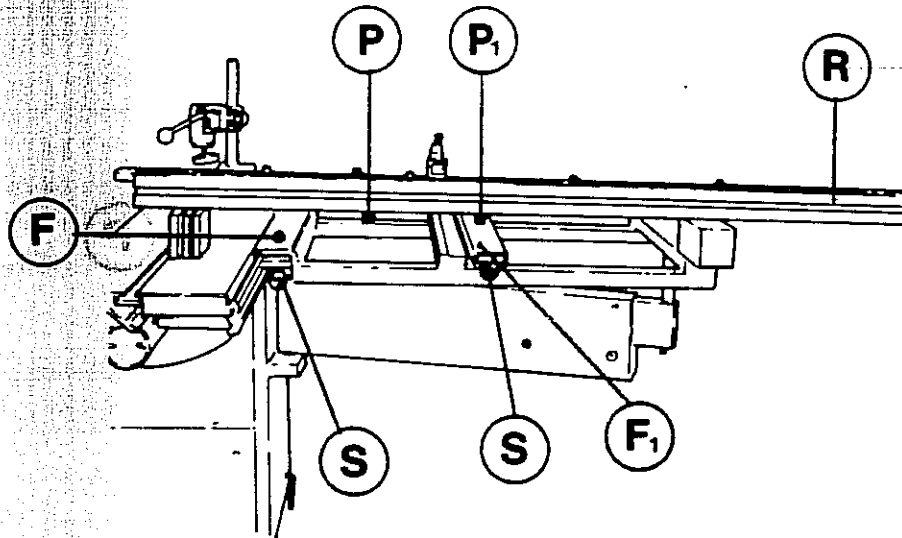

Fig.8
- 2) Lock the fence on the table by inserting the 2 knobs (S) into the bottom table part, then screw the knobs into the inside threading of pivots (P and P₁ fig.8)